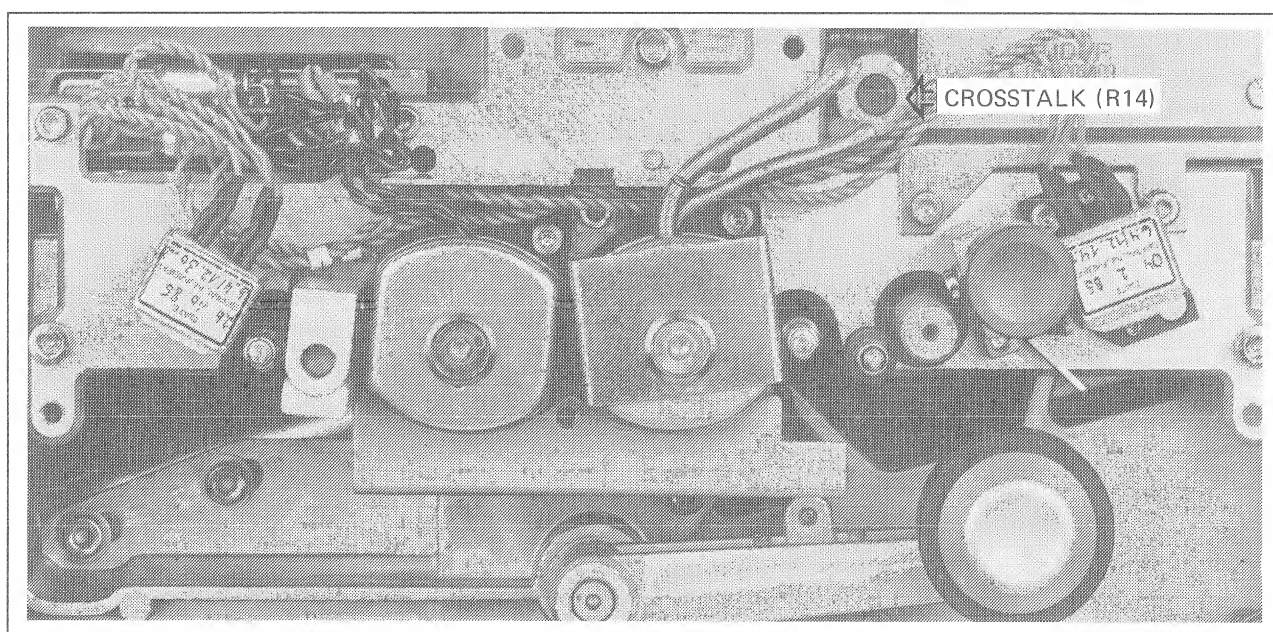

Fig. 4.4.4.
- Align for minimum output voltage with the aid of the CROSSTALK potentiometer (preamplifier in headblock, R14, Fig. 4.4.4).